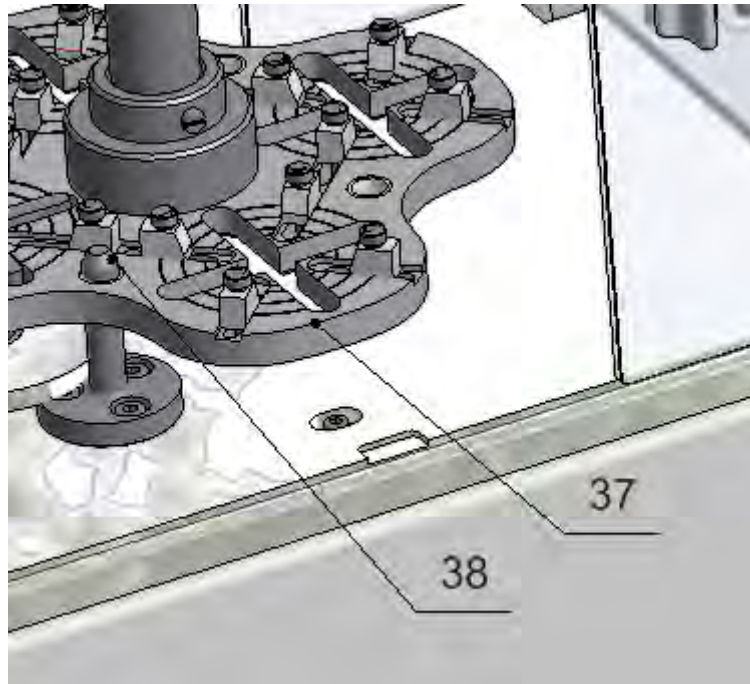

Fig. 11
27.1. Make sure that the plate (37) takes lower position (the fixing mandrel (38) shall be placed inside a reel sleeve). (Fig.11)